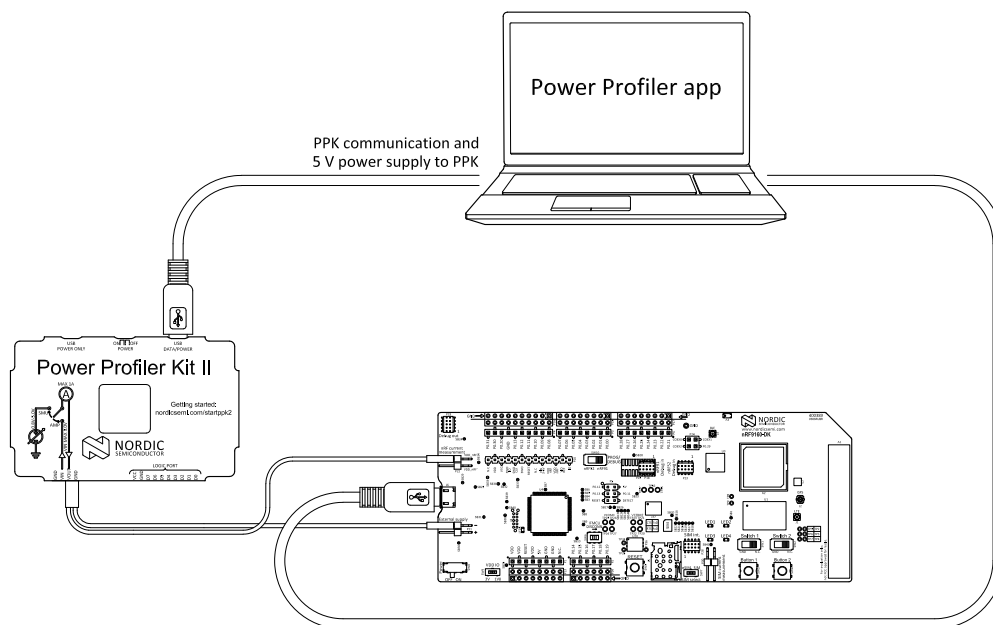

Figure 5: Measuring current in Source Meter mode
- If the PPK2 is set up to measure in Source Meter mode (see Figure 5: Measuring current in Source Meter mode on page 11), select **Source meter**.